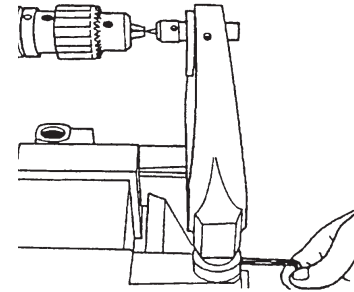

Figure 111
- b. To adjust the Cup Center Point vertically, loosen the Base Mount Lock, then loosen the Tailstock Stop Collars. Raise or lower the Tailstock in the Base Mount until the Cup Center Point vertically lines up with the Drill Chuck, then tighten the Base Mount Lock. Press the Stop Collars down firmly against the Base Mount and tighten the Collar Set Screws, as shown in Figure 111.